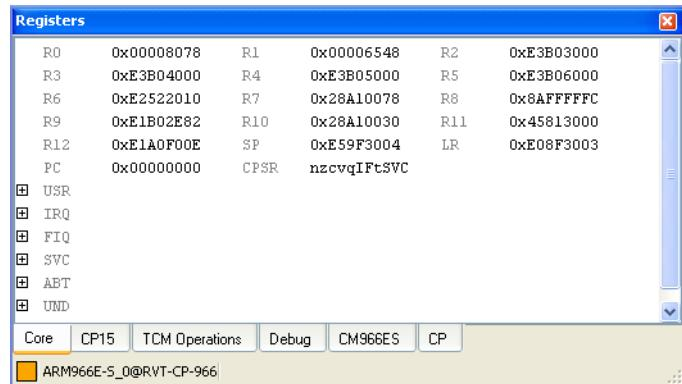

Figure 14-23 Registers view
1. Select **Registers** from the **View** menu to display the Registers view. Figure 14-23 shows an example: